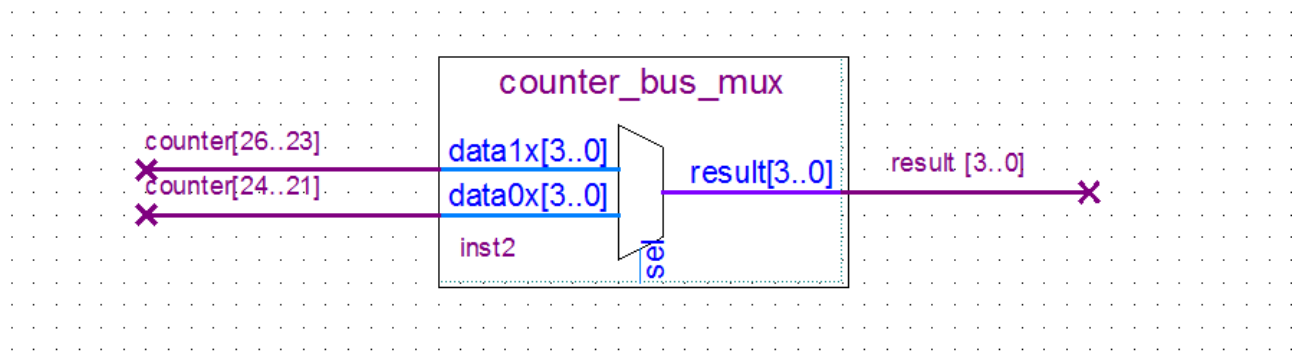

Figure 3-26 Renamed counter\_bus\_mux Bus Lines
- h. Click OK. **Figure 3-26** shows the renamed buses.